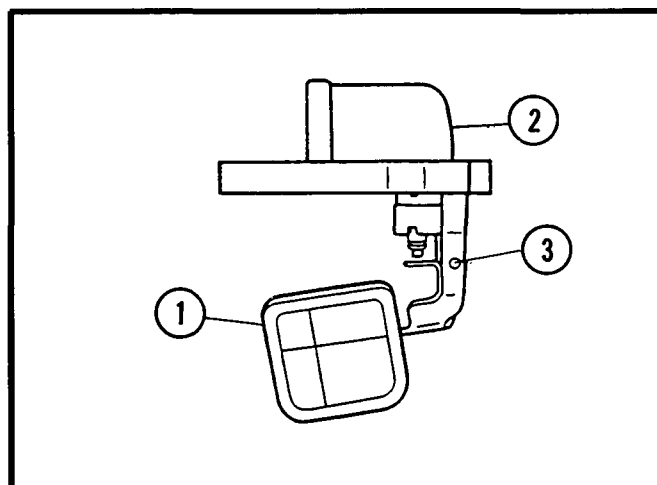

Figure 21.
2. Assemble the float to the float bowl cover with the float lever pin. See Figure 21.